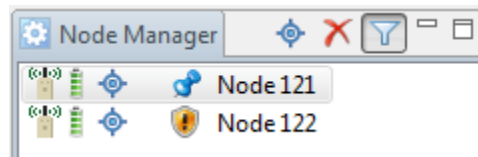

Figure 12: Node Manager Panel
- *Node Manager Panel* – This panel includes a list of ARGUS nodes and their status (see *Figure 12*). Each row in the list indicates the state of one node in the system, including battery status and GPS status.